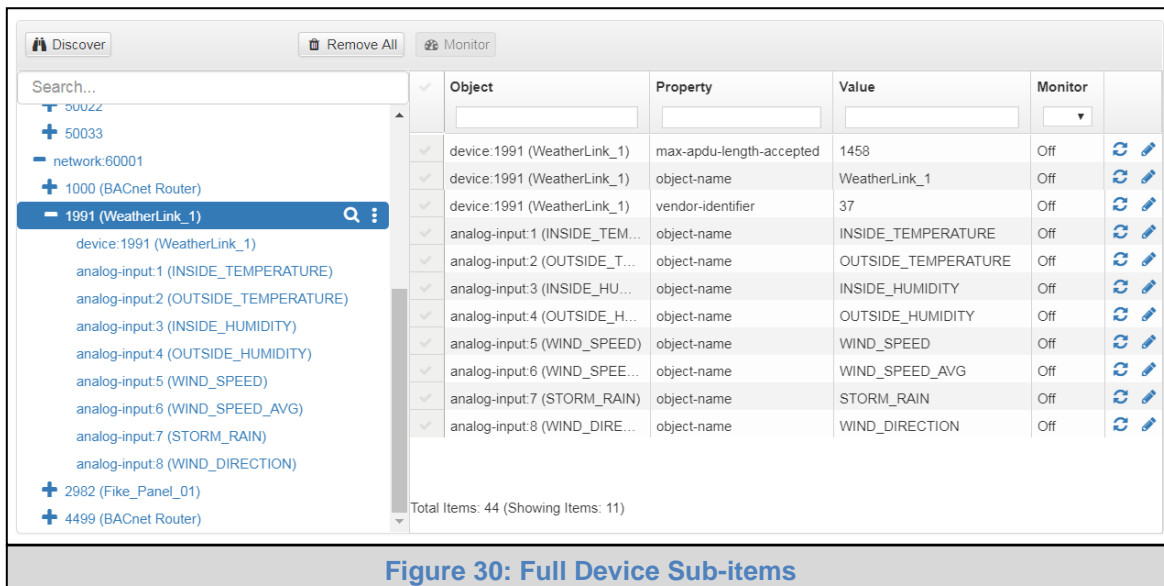

Figure 30: Full Device Sub-items
- To view the full details of a device, highlight the device directly (in Figure 30 “1991 WeatherLink_1”) and click the Explore button (🔍) that appears to the right of the highlighted device as a magnifying glass icon or double-click the highlighted device.